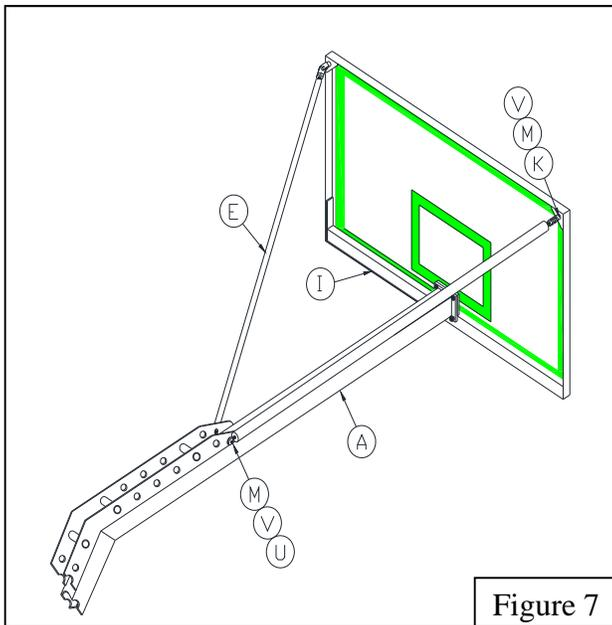

Figure 7
10. Next, lower the unit to the storage position and attach the *Rod Ends (K)* to the *Backboard (J)* in the corners using the *1/2" Flat Washers (V)*, *1/2" Lock Nuts (M)*. Attach the *Backboard Braces (E)* to the extension arm through the ball joint with *1/2" x 2 1/2" Hex Bolt (U)*, *1/2" Flat Washer (V)*, *1/2" Hex Lock Nut (M)* and tighten all hardware. See Figure 7.